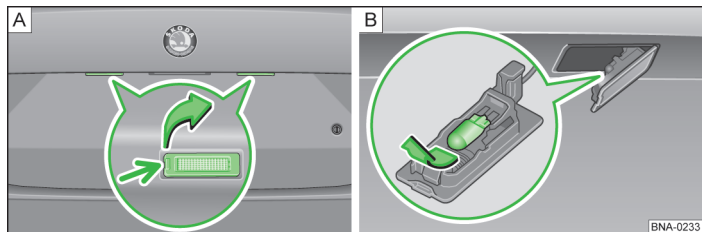

Fig. 87 In the tailgate: rear license plate lamp / Rear license plate lamp: removing the bulb housing
2.	Push the flat blade of the screwdriver from the tool kit into the recess on the rear license plate lamp in the direction of the arrow » fig. 87 - A .
3. Pull out the rear license plate lamp slightly » fig. 87 - [B].